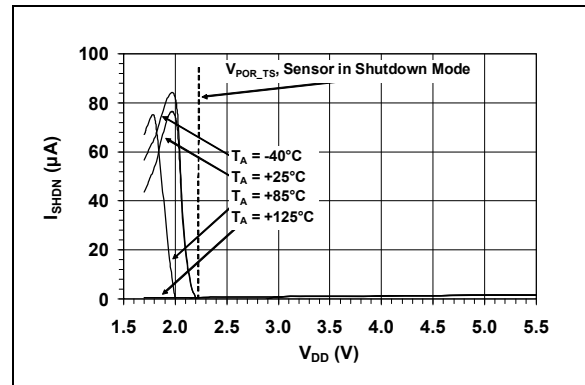

FIGURE 2-15: Shutdown Current vs. V_{DD} .
- Note 1:** For V_{DD} ranges of 1.8V to the temperature sensor V_{POR_TS} , the temperature sensor becomes partially biased and consumes 80 μA (typical) until the sensor POR resets and acknowledges a shutdown command. See Figure 2-15.
- 2:** For V_{DD} ranges of 1.8V to the temperature sensor V_{POR_TS} , the temperature sensor becomes partially biased and consumes 80 μA (typical) until the sensor POR resets and acknowledges a shutdown command. See Figure 2-15.